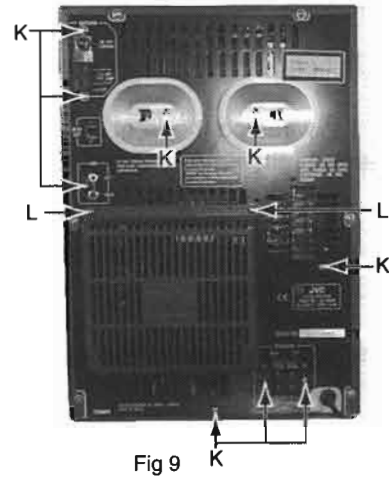

Fig 9
- 2.Remove nine screws K on rear panel and two screws L on rear cover. (See Fig.9)